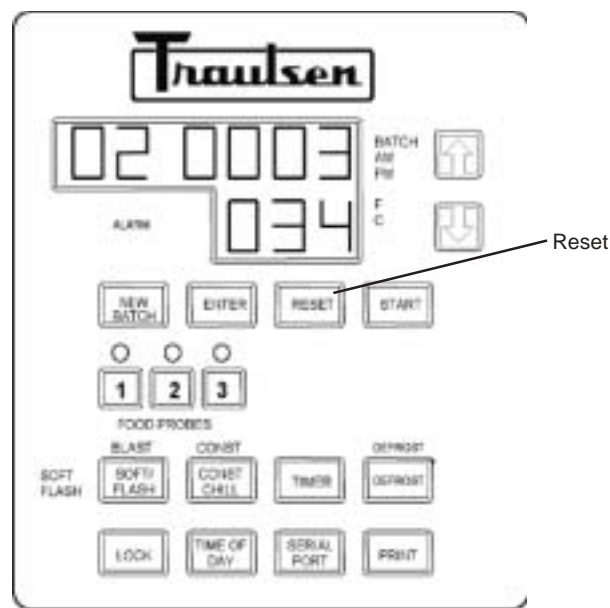

Fig. 33
STEP 5: The Blast Chiller unit is now ready to run. Press the **START** button now. **NOTE:** To stop the chill cycle, press the **RESET** button. This will clear all of the programmed settings and return the unit to maintenance mode (see figure 33).